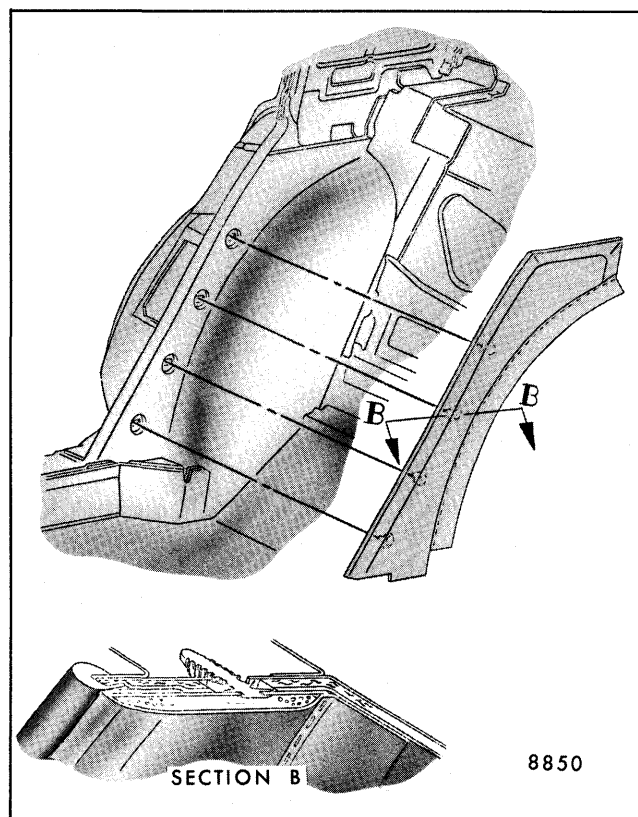

Fig. 6-1-Quarter Lower Trim Attachment
4. Using tool J-24596, BT-7323 or equivalent, disengage quarter lower trim to inner panel nylon fasteners (Fig. 6-1).